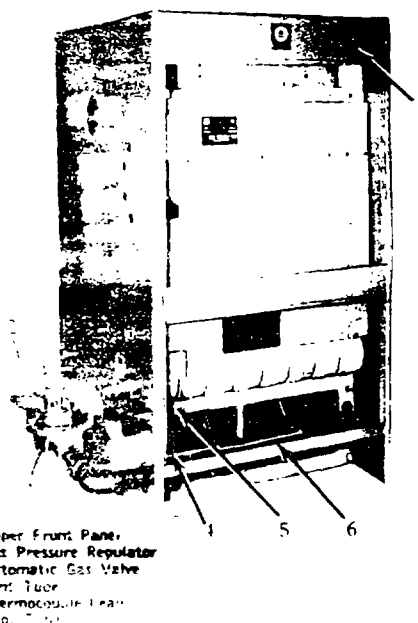
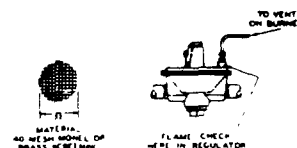

FIG. 23—Assembling Jacket And Controls
FIG. 30—Flame Check
10. Assemble rear half of right side jacket panel. See Fig. 23.
7. Remove vent fitting from regulator (not used for L. P. gas) and see that flame check is in place. See Fig. 30. Replace vent fitting and install tube between pressure regulator and gas valve, using tee connector, also between tee connector and vent tube connector inside of the boiler jacket. See Fig. 23.